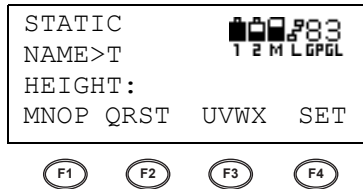

Figure 3-13. Use Cursor and Function Keys to Input
5. Repeat steps 2 through 4 on page 3-8 to input succeeding letters, numbers, and symbols (Figure 3-13).